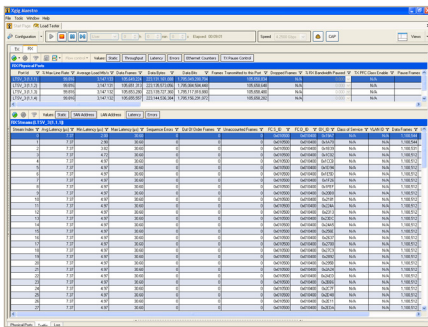
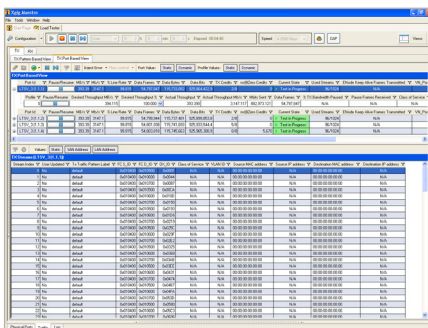

Figure 4: RX Traffic View
Figure 5: TX Traffic View
The Xgig Load Tester monitors received (RX) (see Figure 4) and transmitted (TX) traffic (see Figure 5) to provide comprehensive statistical information through a variety of spreadsheet pane views. On the TX side, port-based and traffic-pattern-based views show statistics such as TX data frames (byte, frame), actual/average bandwidth (MBps), actual/average data rate, and login frame count. On the RX side, port-based and stream-based views show statistics such as min/average/max latency, RX data frames (byte, frame), max/actual data rate, S_ID/D_ID, OX_ID, and error counters for code violations, CRCs, disparity errors, and dropped, out-of-order, and misdirected frames, as well as sequencing errors.